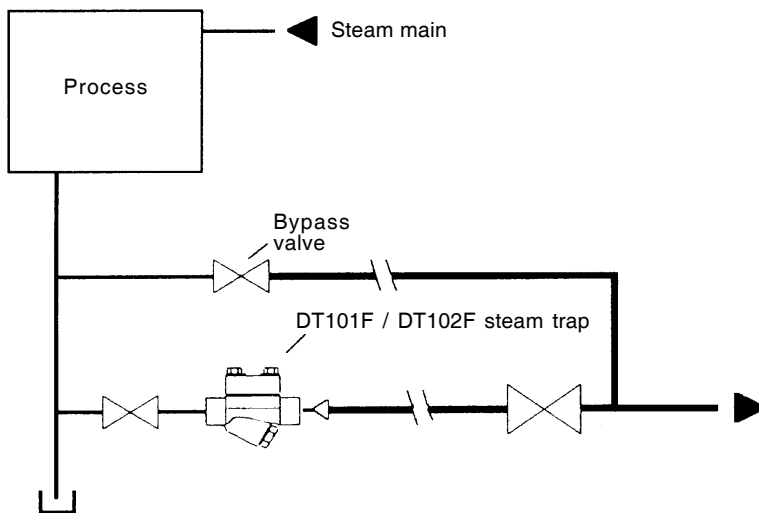

Fig. 1 - Process drain with discharge piped to recovery
- 3.6** If continuous operations are required or for easier maintenance work, a stop valve can be installed upstream, one downstream and another in bypass (see fig. 1).